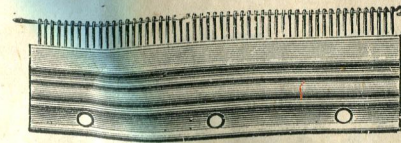

Fig. 4.
(Fig. 4) is the set-up, which is always used in commencing to knit. After knitting the first row across on both sets of needles, remove the wire from the set-up and press the comb up between the needle beds, re-insert the wire, and draw down set-up, attaching a weight stand and weights. Sufficient weights to draw down the work only must be used, too much weight makes the machine heavy.
Now insert the set-up comb (I) (Fig. 4); first take out the wire; hold set-up comb in left-hand underneath the machine, then push the set-up comb gently up between the two needle beds, the teeth of the comb will pass upwards between the tricks and through the yarn on the needles, when quite through insert the wire with the right-hand and lower the comb gently until it rests upon the yarn in the needles.